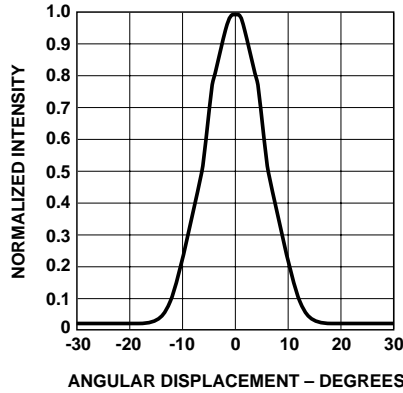

Figure 5. Spatial radiation pattern - 15° lamps.
1. Derate linearly as shown in Figure 5 for temperatures above 50°C.